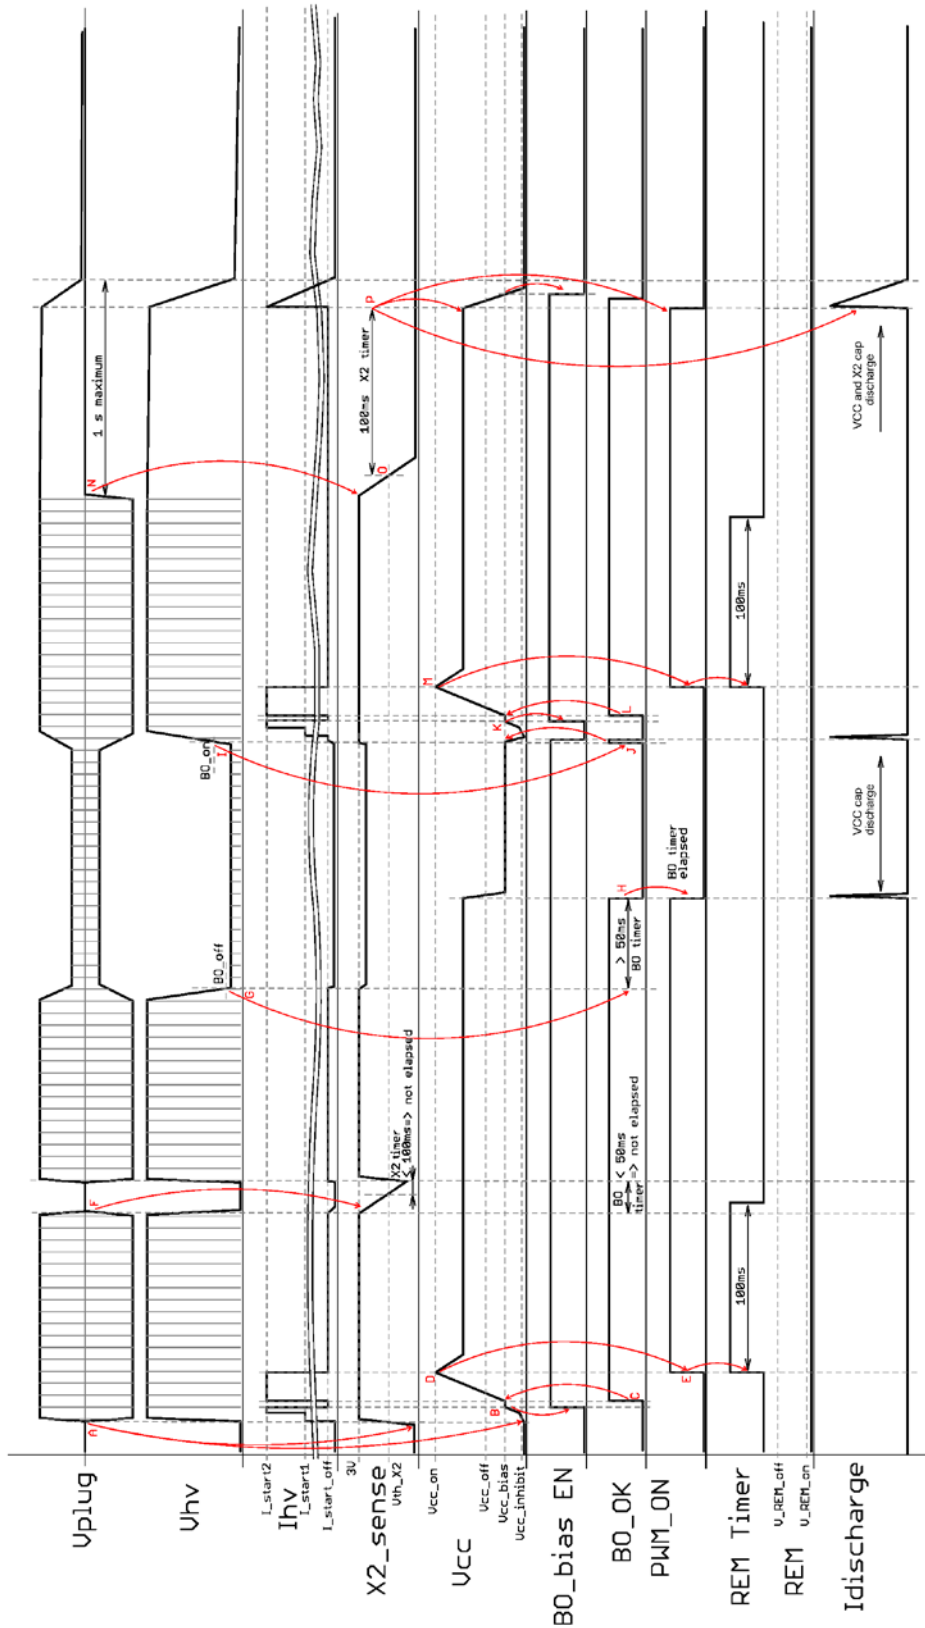

Figure 47. IC Operation Sequencing – Case 2 (Active ON)
2. Application start, AC line dropout, low line off, BO restart, AC line off – Figure 47: